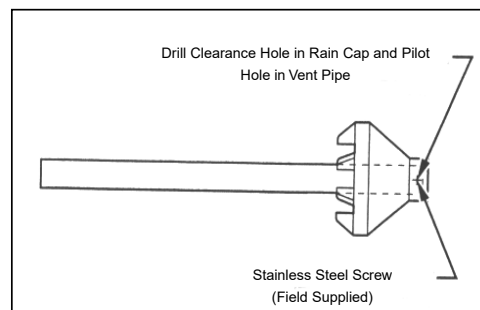

Fig. 7-14 Rain Cap to Vent Pipe Alternate Assembly
5. Secure assembly to roof structure as shown in Fig.7-14 using field supplied metal strapping or equivalent support material.